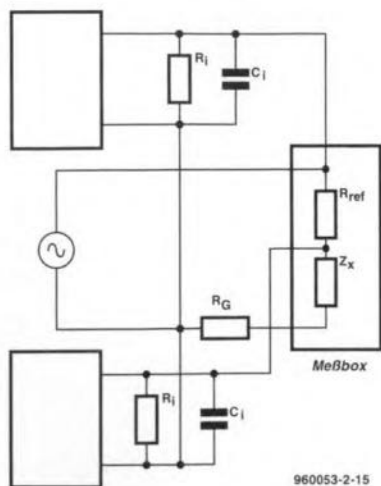

Fig. 5. Circuit of the measurement system with its inherent parasitic (stray) components.
Normally, you will be using inductors in the micro-henry and milli-henry range, and capacitors in the pico-farad and micro-farad range. The value of ex-equipment adjustable capacitors and inductors is rarely printed on the devices. The present AF analyser system allows the values of such (RF) parts to be measured with a fair degree of accuracy, provided you avoid the pitfalls of measurement errors. Figure 5 shows how parasitic components may cause such errors with impedance measurements (for configuration I). The resistance (of up to 0.2 Ω) formed by the generator cable is marked R_G . Effectively, it is connected in series with the measured impedance Z_x .